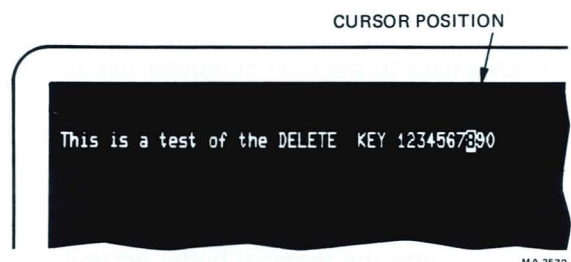

Figure 1-23 Positioning the Cursor to Correct a Typing Error
1. Position the cursor over the character just to the right of the character you wish to delete (Figure 1-23).